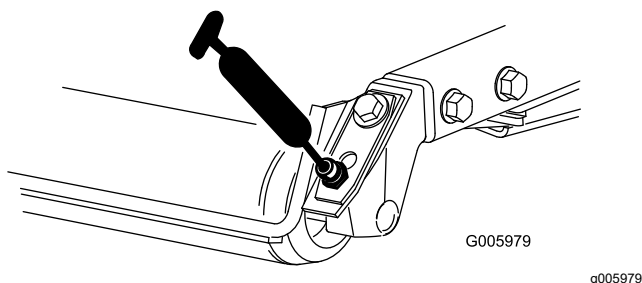

Figure 86
- Rear roller bearings (2 per cutting unit) as shown in Figure 86